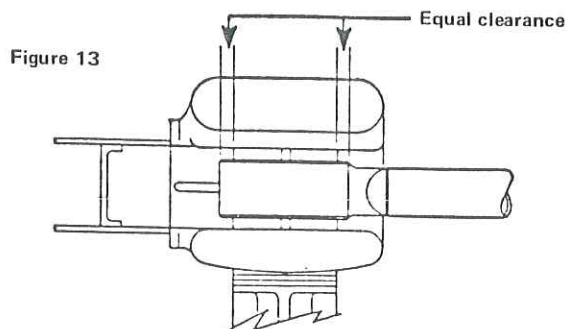

Figure 13
3. The silver on the jaw contact leaves must be centered on the silver strips of the blade tip. (Figure 13)